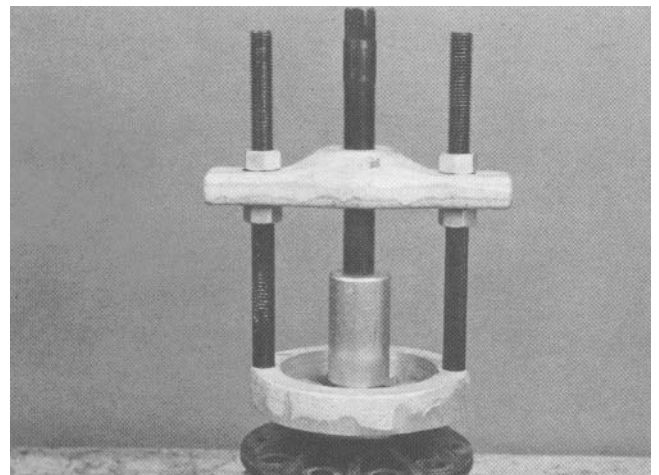

Figure 27
6. Do not remove the bearings from the differential case unless bearing failure is evident. It is recommended that whenever bearings are removed (regardless of usage) they must be replaced with new ones. Remove the case side bearing with a puller as shown (Fig. 27).